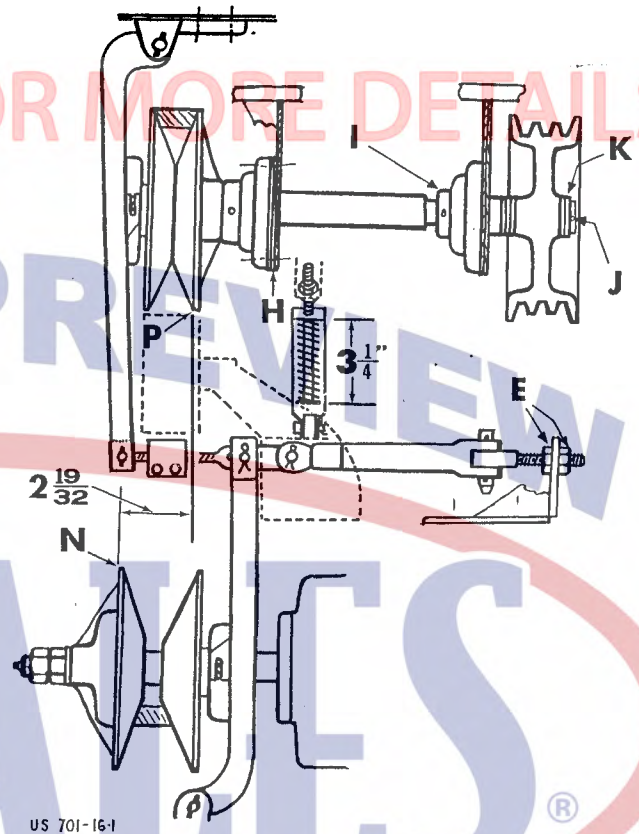

Figure 13
Figs. 12 & 13 — 1. The tension on the drive belt is controlled by spring "D" (Fig. 12). For proper belt tension, the spring must be adjusted to 3-1/4" between the washers as indicated in Fig. 13. **NOTE:** The 3-1/4" dimension is to be obtained when the vari-drive belt is in the center position on both sheaves.
3. Adjust the spring for the variable drive belt idler to 3-1/4" between the washer and spring anchor as indicated in Fig. 13.
The distance between the outer edge of the lower fixed sheave at "N" (Fig. 13) and the inner edge of the upper fixed sheave at "P" should be 2-19/32" ($\pm 1/16$ ") as indicated. **NOTE:** Place a straight edge along the outer edge of the lower fixed sheave to check this.
Add or remove shims between bearing and bearing cage at "H" (Fig. 13) to attain this. However, when doing this, locking collar "I" must be loosened and cotter pin "J" removed to allow shaft to shift. In case shims are added or removed, washers "K" on either side of traction drive sheave will have to be added or removed also. Make sure not to misalign this sheave when adding or removing washers.